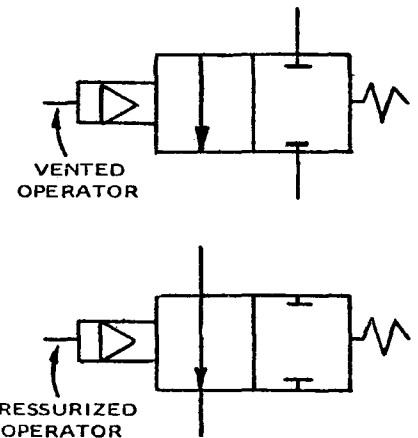

FIGURE 11-4. – PURGE AIR VALVE
**Purge Air Valve** (Figure 5-1) – The purge air valve is a normally closed two-way air-actuated valve that admits a small amount of purge air from the final discharge manifold to the compressor to counteract the oil knock that occurs in oil-flooded rotary screw type compressors when they are completely unloaded with pressure in the oil reservoir. See Figure 11-4 for a schematic diagram of the purge air valve in both its modes of operation.